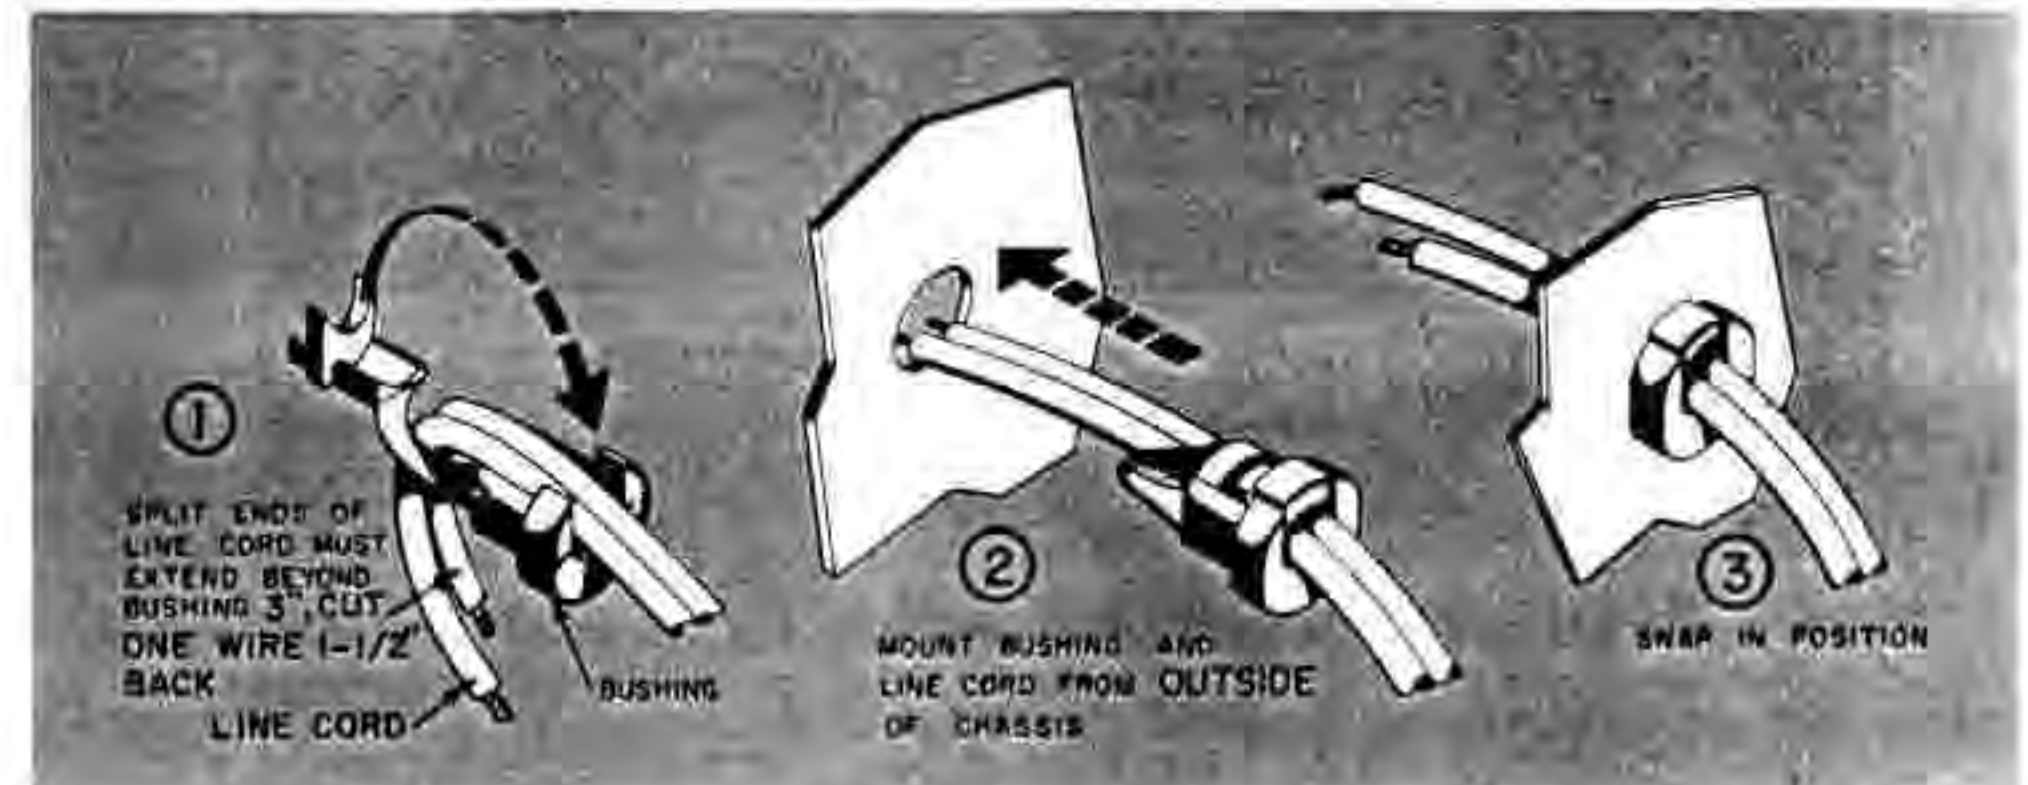

FIGURE 19. LINE CORD MOUNTING
- ✓ ☐ Line cord and bushing. Mount as shown in Figure 19. Cut 1 1/4" from one lead. Strip the insulation back 1/4". Solder the long line cord lead to terminal 5 of TS-7 (2 wires). Solder the short line cord lead to terminal 2 of the fuse holder.